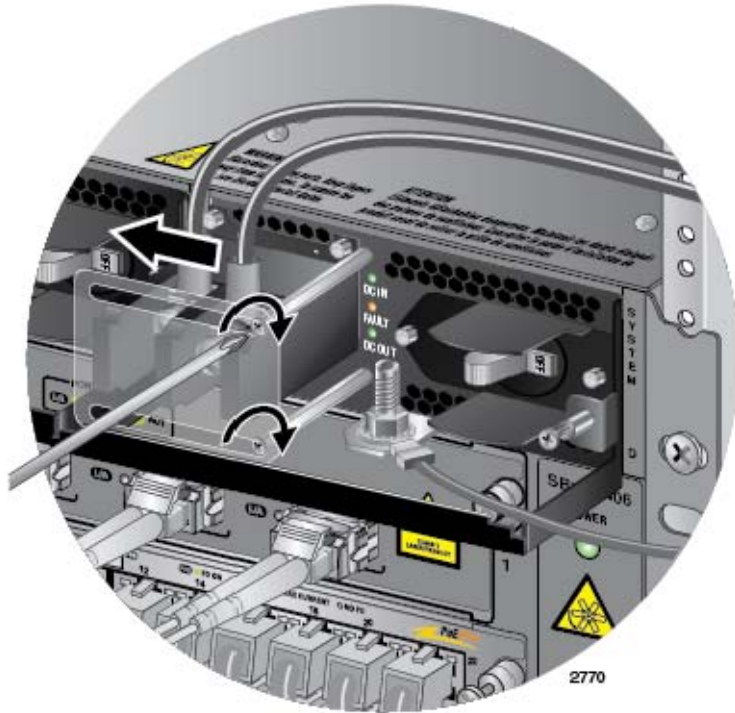

Figure 142. Closing the Plastic Cover over the Terminal Connectors
8. Slide the plastic cover to the left and lightly tighten the two screws with a #1 Phillips-head screwdriver to secure the cover. See Figure 142 on page 201. You might need to lift the locking handle slightly to access the bottom screw.
7. Slide the plastic cover to the left and lightly tighten the two screws with a #1 Phillips-head screwdriver to secure the cover. See Figure 142 on page 201. You might need to lift the locking handle slightly to access the bottom screw.